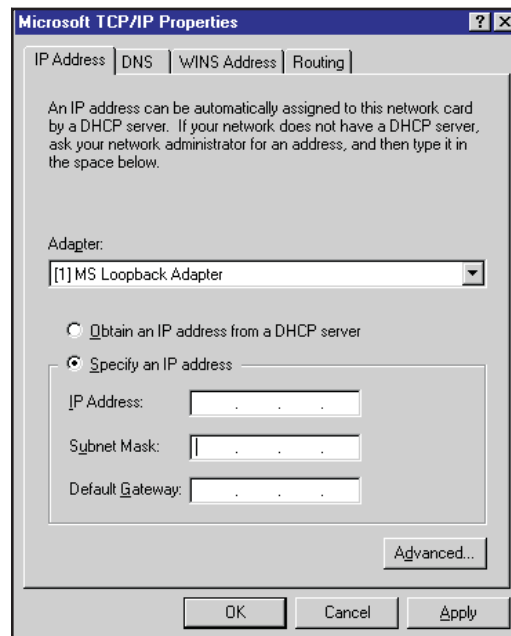

Figure 182 Microsoft TCP/IP Properties
5. Press the Close pushbutton to exit the Network setting dialog. At this time you will be prompted (via a dialog shown in Figure 182) for setup of TCP/IP properties.